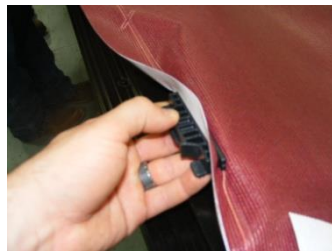

Figure 18: Attach Tension Clip
- c. Snap a tension clip over the mandrel and mesh (**Figure 18**). Do not try to drive both ends of the clip down onto the mandrel and fabric at the same time; snap one end down and then the other.